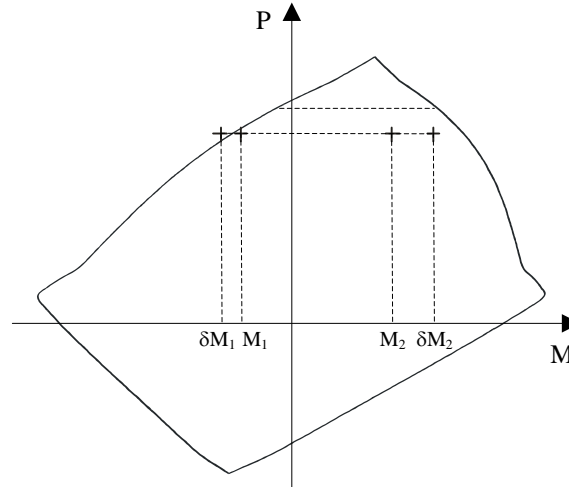

Figure 2-8 Case of unsymmetrical section bent in double curvature ( $M_1$  and  $M_2$  of different sign) with the smaller end moment,  $M_1$ , governing the design
While design codes define moment  $M_2$  as always positive and the sign of moment  $M_1$  depending on single or double curvature bending46, spColumn retains actual signs of moments  $M_1$  and  $M_2$ . This revision ensures proper comparison against negative and positive moment capacities of unsymmetrical sections (see Figure 2-8).
2. Moments at column ends,  $M_1$  and  $M_2$ , are calculated, where  $M_1$  is the moment with the smaller absolute value and  $M_2$  is the moment with the larger absolute value. For columns in nonsway frames, the end moments will be equal to the factored applied first order moment. For columns in sway frames, the end moments will be the moments  $M_1$  and  $M_2$  calculated in the procedure for moment magnification at ends of compression member. While design codes define moment  $M_2$  as always positive and the sign of moment  $M_1$  depending on single or double curvature bending55, spColumn retains actual signs of moments  $M_1$  and  $M_2$  to ensure proper comparison of resulting magnified moments against negative and positive moment capacities of unsymmetrical sections (see Figure 2-8). This revised interpretation does not affect results of the moment magnification along length procedure because the procedure relies on the  $M_1/M_2$  ratio. spColumn follows the code definition which assumes the ratio to be positive if the member is bent in single curvature and negative if bent in double curvature. If both moments are equal to zero, the program conservatively assumes the ratio of  $M_1/M_2 = 1.0$ .
11. The factored magnified moment along the length of a compression member,  $M_c$ , is the larger67 of  $\delta M_2$  and  $\delta M_{\min}$ . The program also calculates moment  $M_c$  based on the smaller end moment,  $M_1$ , to account for scenario when  $M_1$  and  $M_2$  are of different sign (double curvature bending). For an unsymmetrical section, the smaller moment,  $M_1$ , may govern the design when the moment capacity on the negative side of the interaction diagram is smaller than the moment capacity on the positive side (see Figure 2-8).